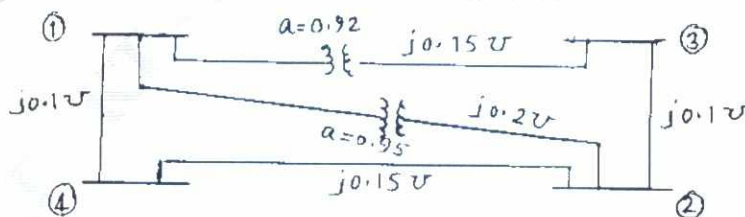

Fig.Q2(b)
- b. Find the admittance matrix for the system shown in Fig.Q2(b). (06 Marks)